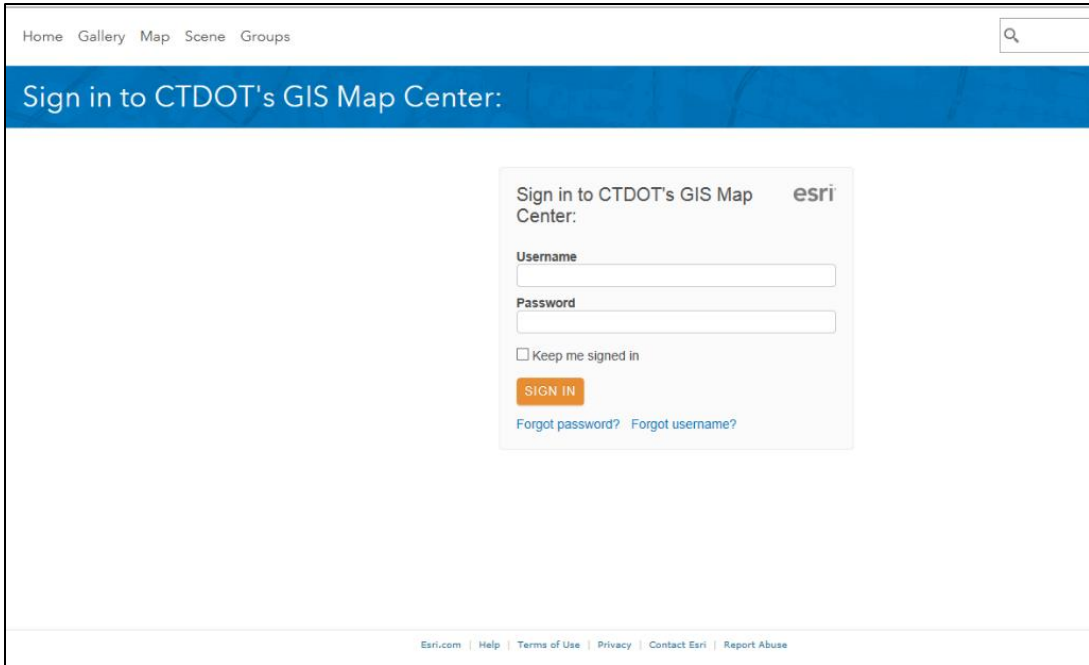

Figure 8. ArcGIS Log-in page for CTDOT.
2. Sign into ArcGIS Online (Figure 8, below): <http://ctdot.maps.arcgis.com/home/index.html>.